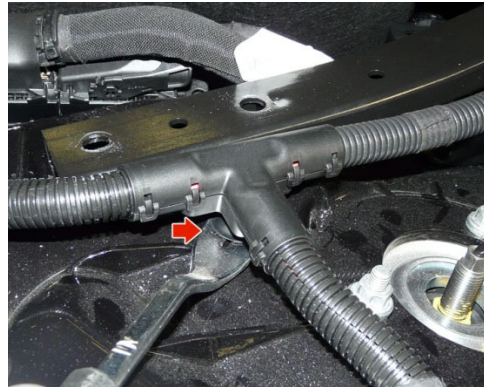

Fig.8
h. Unsnap the wire harness support clip and move the front cross member to the side. (Fig.8)